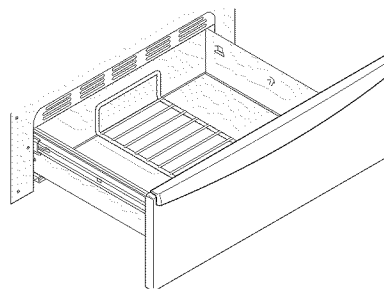

Figure 35: Downward position
- In the downward position (See Figure 35) to allow for light weight food items and empty cookware (for example, rolls, pastries, and dinner plates) on the rack.